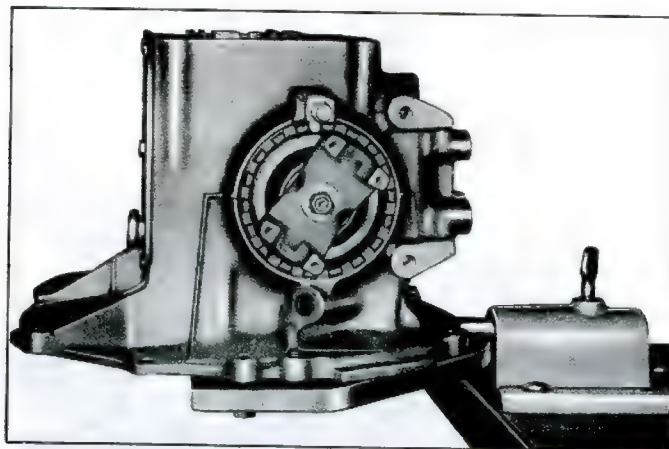

Fig. 13—Differential Carrier in J-3289-01 Fixture and front pump shaft with the applicable converter splines (fig. 12).
2. Mount differential carrier in Holding Fixture J-3289-01 as illustrated in Figure 13.